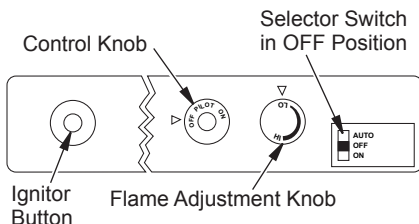

Figure 28 - Control Knob and Ignitor Button Location
4. Press in and turn control knob clockwise  to the OFF position (see Figure 28, page 20).
5. Wait five (5) minutes to clear out any gas. Then smell for gas, including near the floor. If you smell gas, STOP! Follow “B” in the safety information, page 20. If you don’t smell gas, go to the next step.
6. Press in and turn control knob counterclockwise ↺ to the PILOT position. Press in control knob for five (5) seconds (see Figure 28).